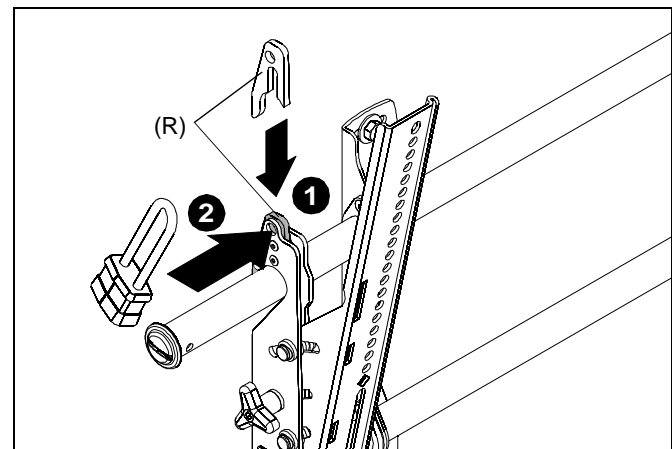

Figure 9
1. Add optional lock bracket (R) to the mount. (See Figure 9)